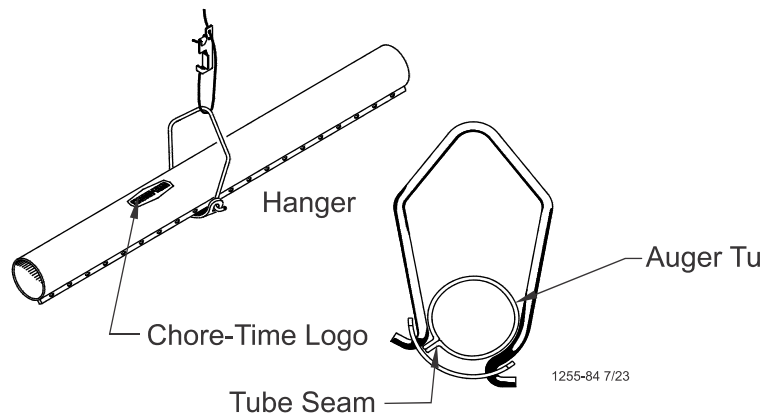

Figure 36. Hanger Installation
3. To achieve total feed drop out all along the system, the Chore-Time Logo should be centered at the crown of the tubes and all the Hangers should be installed as shown in Figure 36.
5. Install the Hangers on the feed line tube at the 8' [2.4 m] spacings determined by the suspension drop lines. **Figures 36 and 39** show the proper installation of the Hanger Assembly. Make sure the outlet drop hole is downward when the Hangers are installed, otherwise feed will not be allowed to drop into the feeder pan.